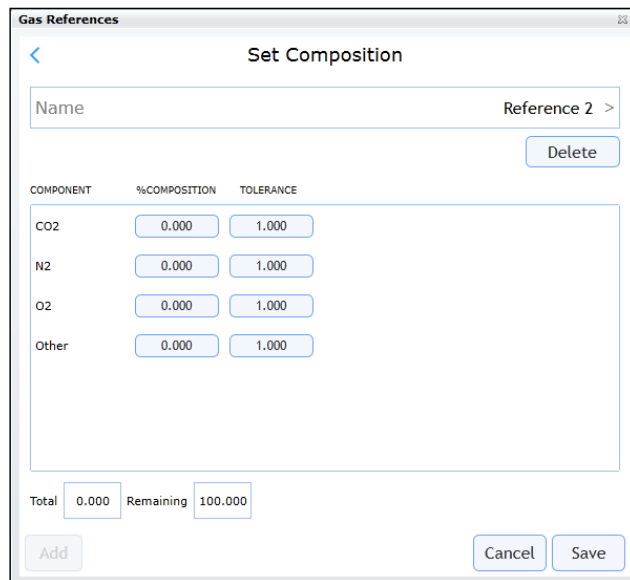

Figure 97. Reference gas composition entry dialog
13. Select the new method from the list in the Select Target Method dialog. This opens a Set Composition dialog (Figure 97) and creates a component list from all the components in the selected method. By default, all composition values are 0.000 mol %.